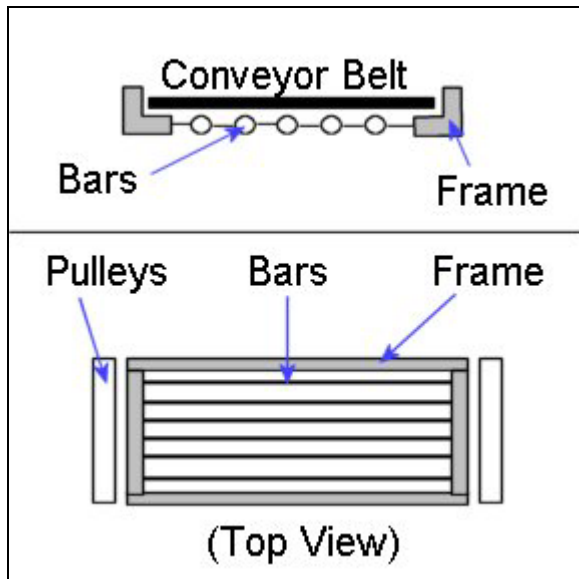

Figure 5. Slider Bar Conveyor.
**Slider Bar** conveyors consist of a group of parallel bars (usually constructed of steel, although other materials may be used) to support the conveying surface, and a drive pulley (Figure 5).